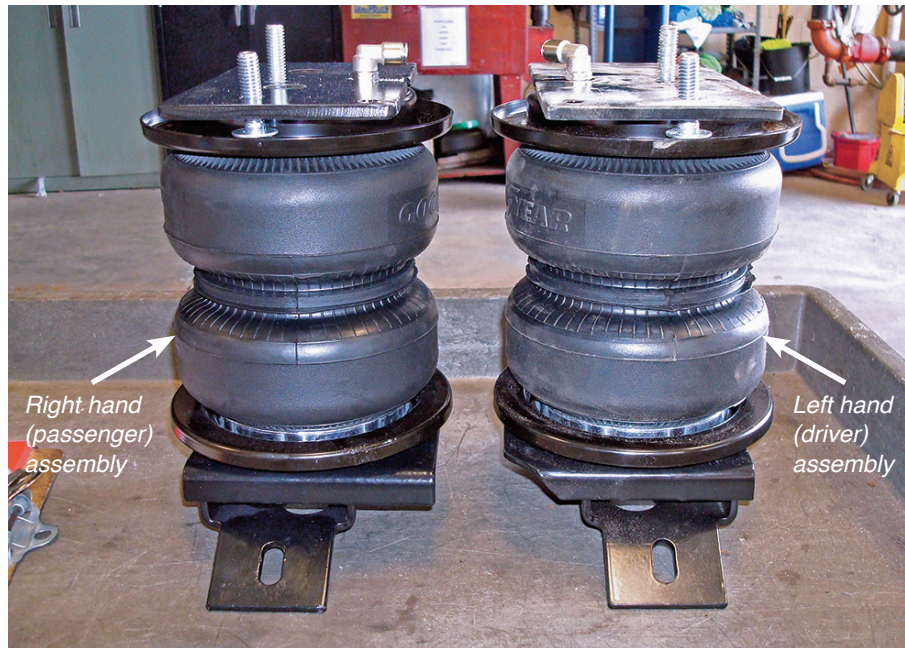

Fig. 11
- Attach the other lower bracket to the right hand side assembly in the same way as noted in the previous steps. Both assemblies shown in Figure 11.